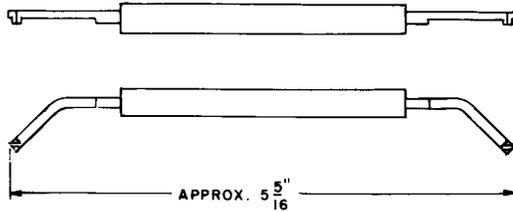

Fig. 16—582A Adjuster Tool
2.16 582A: The 582A tool (Fig. 16) is a spring adjuster used for adjusting the 0.030-inch spring tangs next to the core on the UA-type relay.